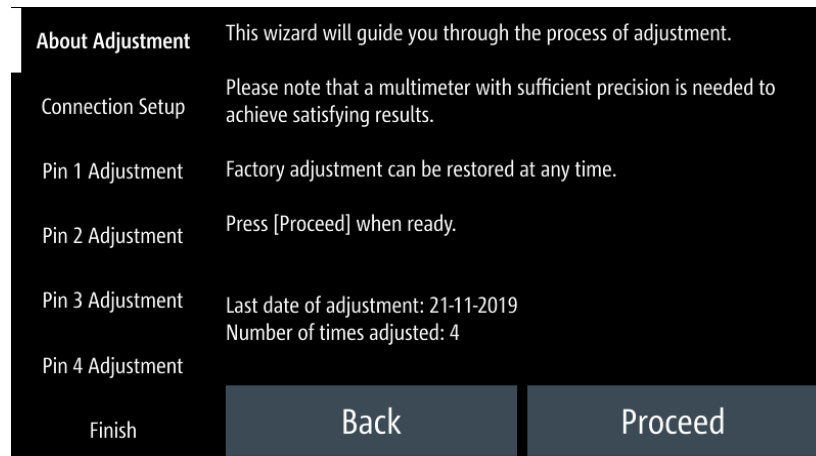
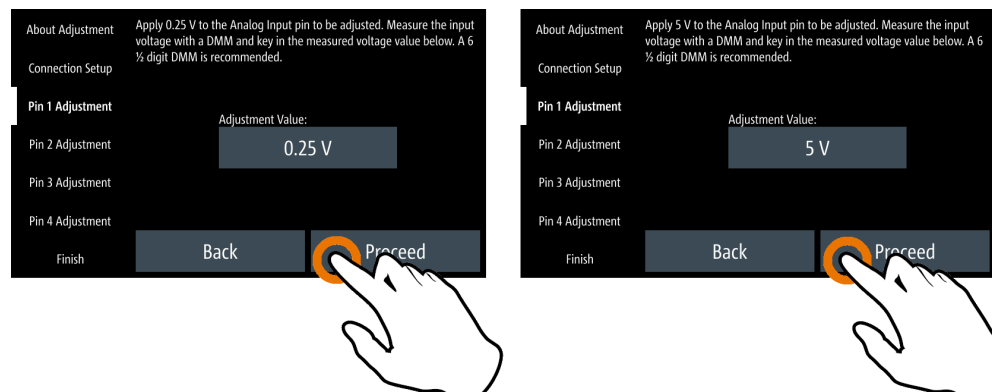

Figure 5-37: Analog In adjustment wizard
Figure 5-38: Analog In adjustment procedure
- Follow the on-screen instructions displayed in Figure 5-37. Supply the required voltage to the analog input and key in the measured value from DMM using the on-screen keyboard. See Figure 5-38.